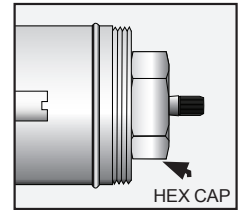

FIG. 2
3. Expose the top of the cartridge by removing the top hex cap from the valve body. FIG. 2